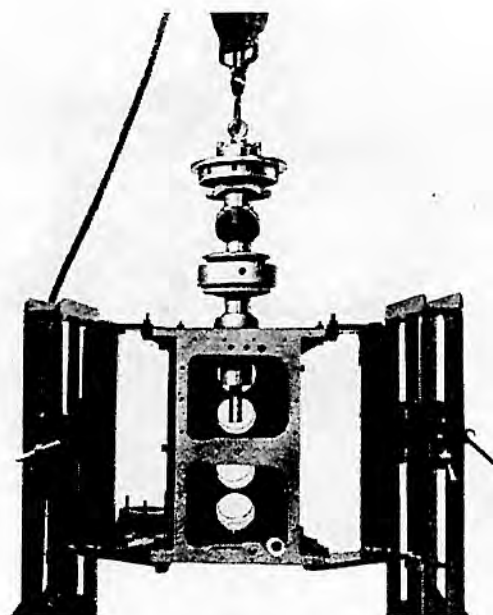

FIG. 144 LIFTING CRANKSHAFT ASSEMBLY FROM CYLINDER BLOCK
It is recommended that the crankshaft assembly is drawn out of the crankcase with the aid of a hoist, with the sling fastened on to the end of the flywheel spigot by means of a suitable attachment plate held by two screws, see Fig. 144. This will avoid the risk of damaging the bearing housing or crankcase by attempting to lift the heavy assembly out manually.
- (d) With the rear of the crankcase upended in the stand, gently lower the crankshaft assembly into position with the aid of a hoist, as previously recommended when removing, guiding webs through the centre partition and carefully inserting front journal into its bearing. See Figure 144.